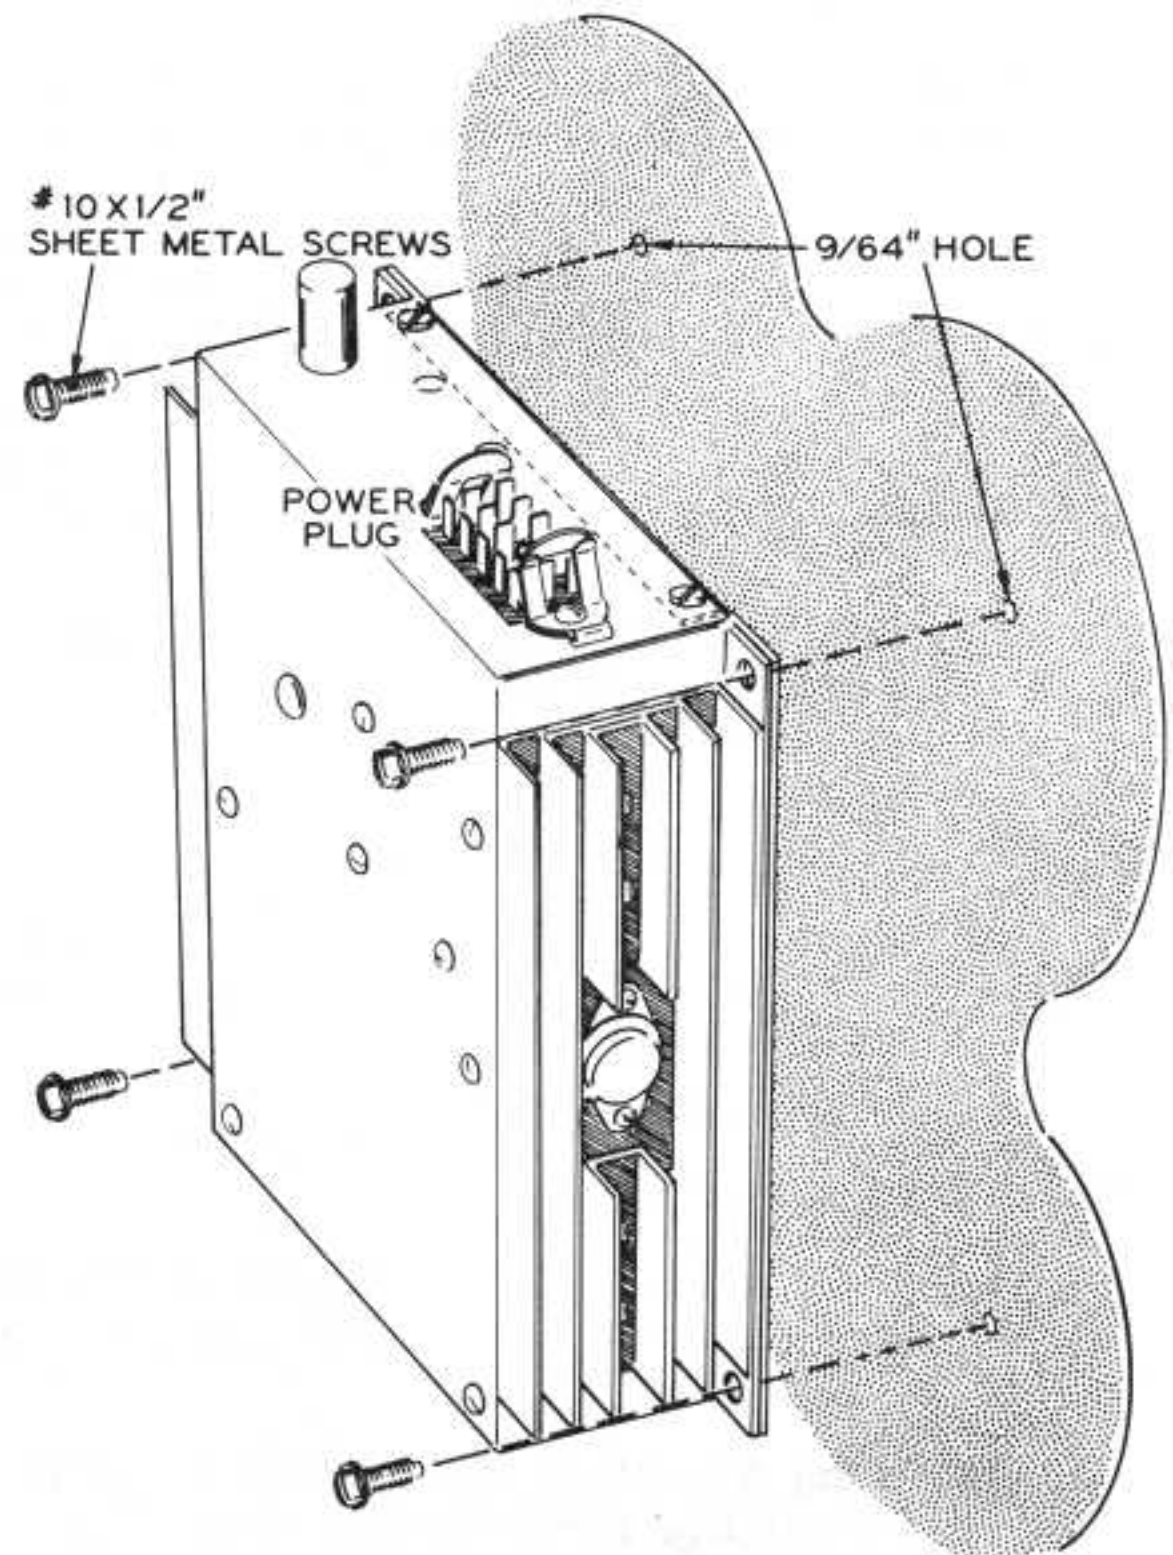

Figure 4
- () Referring to Figure 4, mount the complete unit at the prepared location. Start all four #10 x $1/2$ " sheet metal screws into the mounting surface, and then tighten securely.